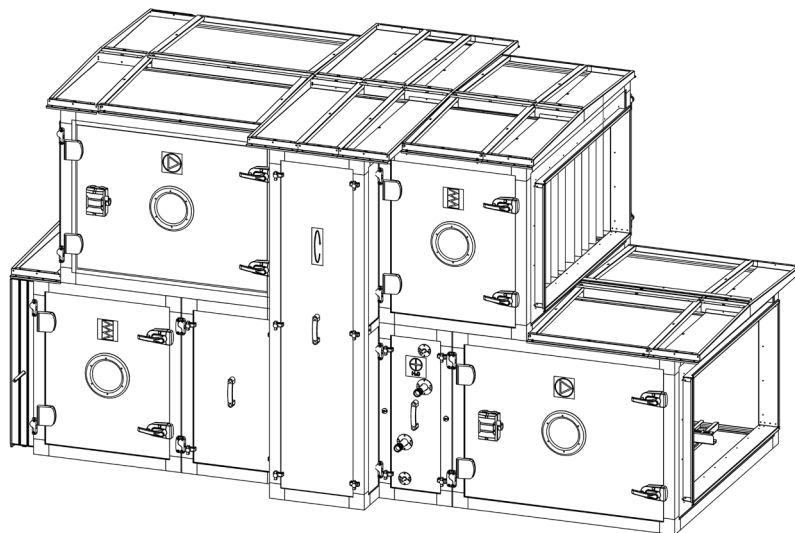

Figure 11.4
7. Attach standard roof supports in accordance with clauses 1, 2 and 3 of Chapter 4, after mounting the widened section supports, as shown in Figure 11.4.